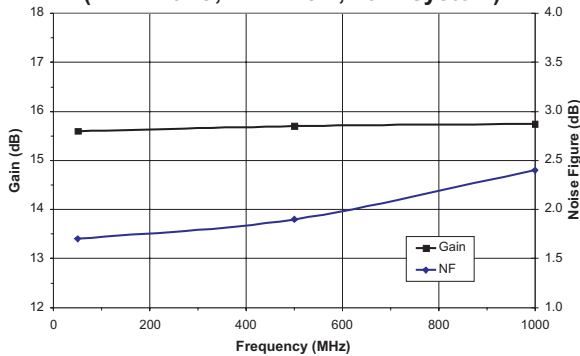

Figure 7: Gain and Noise Figure vs. Supply Voltage - S3 Packaged Device
- (1) 160 channels, +17 dBmV per channel (measured at output), 6 MHz channel spacing.
(2) 80 channels, +19 dBmV per channel (measured at output), 6 MHz channel spacing.
(3) Two tones, -10 dBm per tone at input.
(4) The device can be operated at V_{DD} = +6 VDC for lower power dissipation. Refer to Figures 7, 8, 13, and 16 for performance variation with supply voltage.